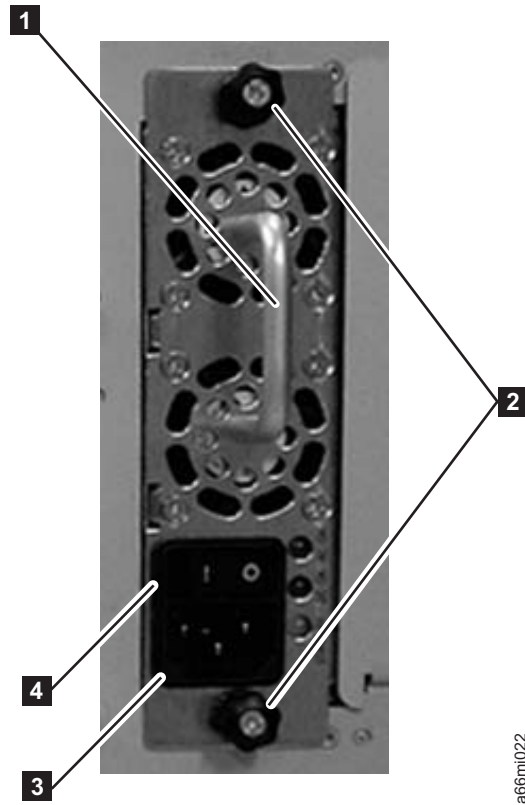

Figure 3-29. Control Module Power Supply
1. Replace the power supply component by sliding it into the power supply slot. First, grasp the handle (**1** in Figure 3-29) while supporting the power supply component from underneath. Then, line up the power supply component with the guides in the power supply slot, and carefully push it into the library.
2. Tighten the two thumb screws (**2** in Figure 3-29) on the power supply component by turning them clockwise.
1. Turn the switch on each power supply (4 in Figure 3-29 on page 3-30) to the ON (I) position.